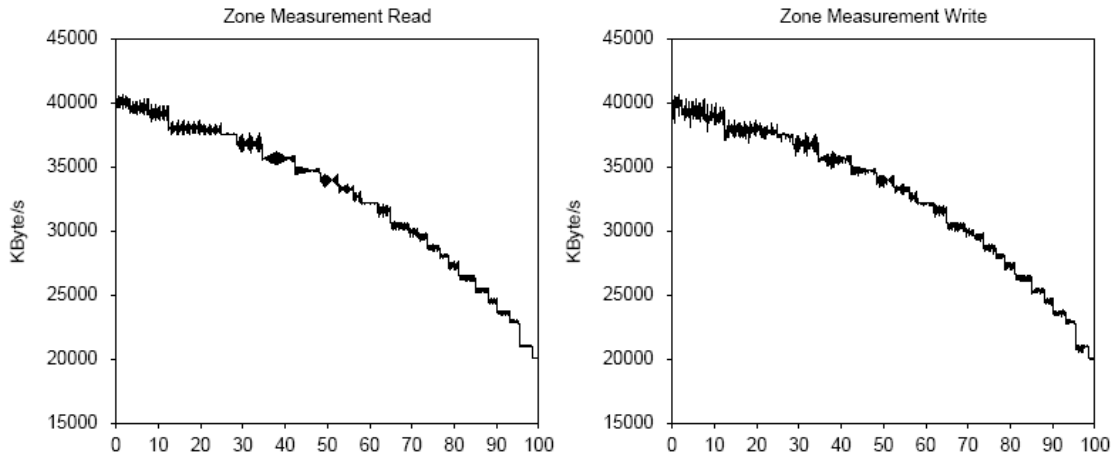

Figure 9: H2Bench Zone Read/Write Charts
Classical mechanics principles tell us that the linear velocity of the platter with respect to the read head is not constant across the entire radius of the rotating platter. At the inner diameter (ID) the disk appears to be spinning at a much slower rate with respect to the read/write head than at the outer diameter (OD.) HDD's use "Zoned Bit Recording" which keeps stored bit density constant across the entire disk.⁵ Therefore, at the outer diameter of the disk the read/write head writes more bits per revolution than at the inner diameter. This will result in a net difference in transfer rate between these two areas as shown in the H2Bench benchmark zone read/write charts (see Figure 9: H2Bench Zone Read/Write Charts.) The transfer rate at the inner diameter may be 50% of the rate at the outer diameter.